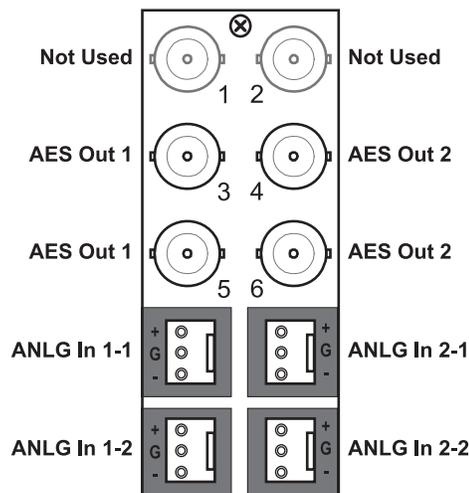

Figure 5 Cabling for the 8310AR-036 and 8320AR-036
Refer to **Figure 5** for cabling designations.
- **8320AR-036** — Each module occupies two slots and accommodates one card. This rear module provides four 75ohm AES/EBU outputs, and one stereo analog audio input. Refer to **Figure 5**.